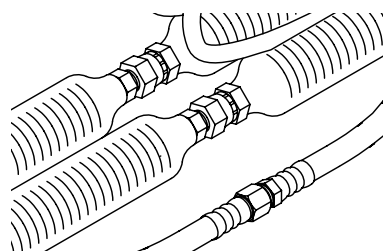

FIG. 9: Hose Connection (steps b and c)
- b. Connect heated hoses to isolation hoses and tighten. To ensure a leak-proof chemical connection, do not cross-thread or over-tighten fittings. See FIG. 9.
- c. Connect air hoses and tighten fittings. See FIG. 9.